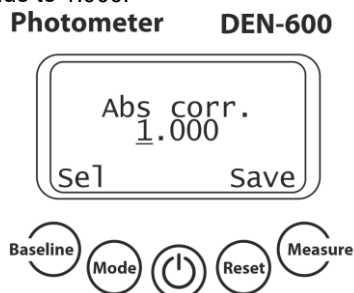

Figure 6. Abs correction coefficient setting window.
5.11. **Abs correction coefficient (Figure 6).**